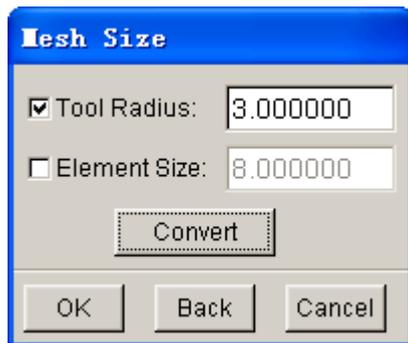

Figure 5.8 Mesh size dialog box
6. Next, click **OK** button to open the Mesh Size dialog box illustrated in Figure 5.8.